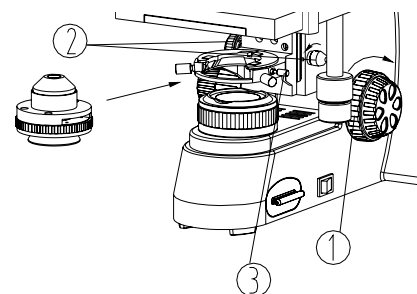

Figure 2.
5. Install the Koehler illumination substage condenser. See Figure 2.
- a. Rotate the coarse focusing knob ① to raise the stage to the highest position.
- b. Rotate the condenser knob ② to lower the condenser bracket to a position that allows easy access.
- c. Fully loosen the condenser lock screw ③.
- e. Tighten the lock screw ③, then raise the condenser to the highest position.